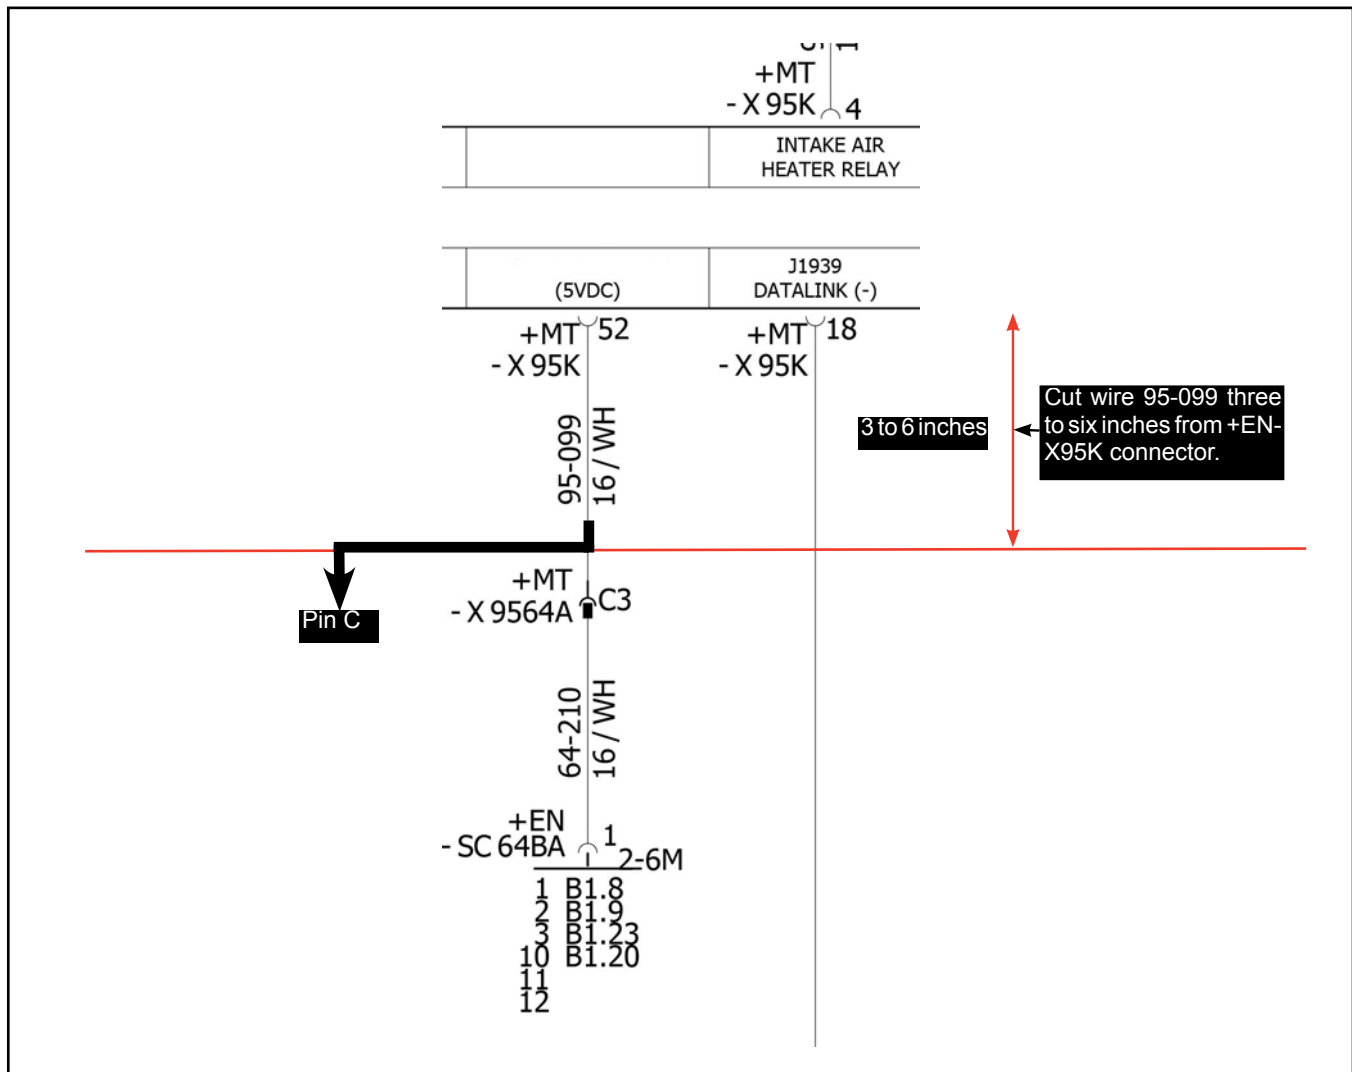

Figure 12 - Wire Diagram, Cut wire 95-099 Three to Six Inches from +MT-X95K Connector.
- 1.13. Cut wire 95-099 three to six inches from the +MT-X95K connector (see Figure 12).